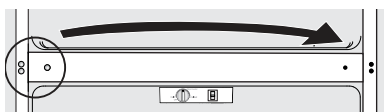

Figure 3
- Remove the 3 pan head screws at the center of the cabinet (Figure 3) and install them on the opposite side of the cabinet.